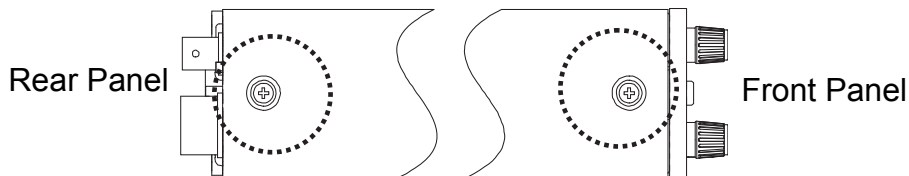

Fig.7-6
2. Remove the cover using two screws (M3) on the top face (Figure 7-6).